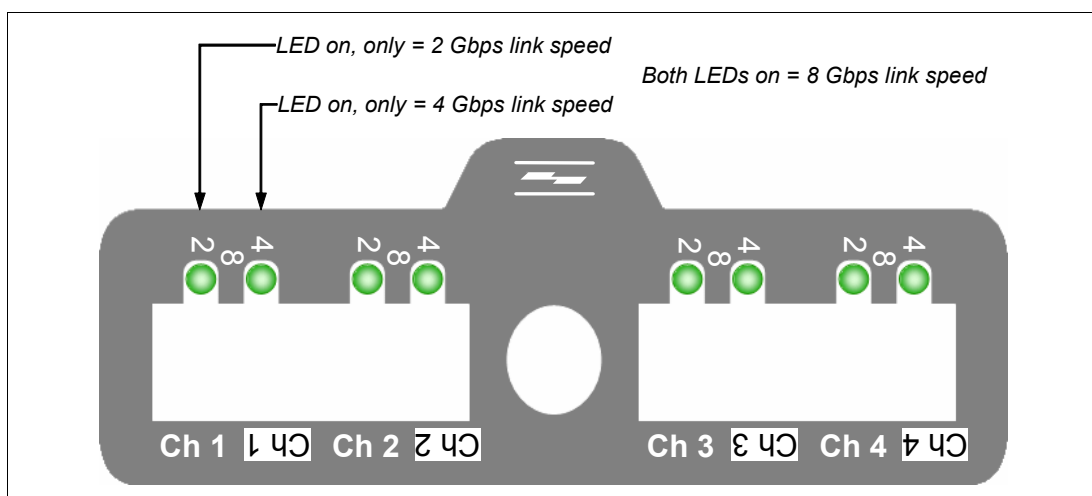

Figure 2-20 8 Gbps faceplate design
- ▶ Figure 2-20 describes the LEDs for a 8 Gbps HIC.